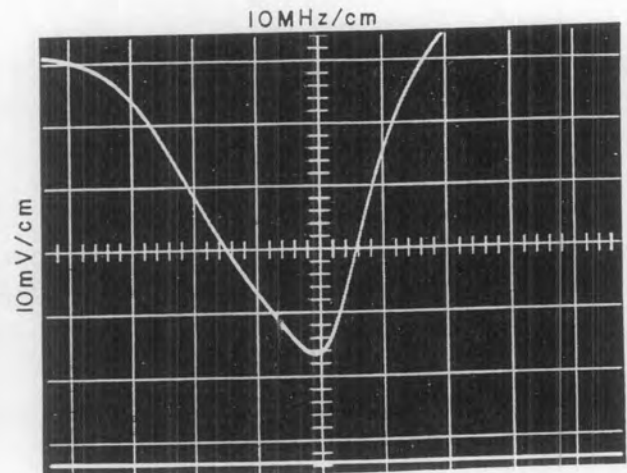

Figure 4-31. 500 MHz VSWR Response
- (9) Tune the sweep generator and tuner to 500 MHz and adjust L2 and L5 (by spreading or compressing the turns as required) for a response centered around the marker similar to Figure 4-31. The marker must remain below the 3:1 vswr reference line.